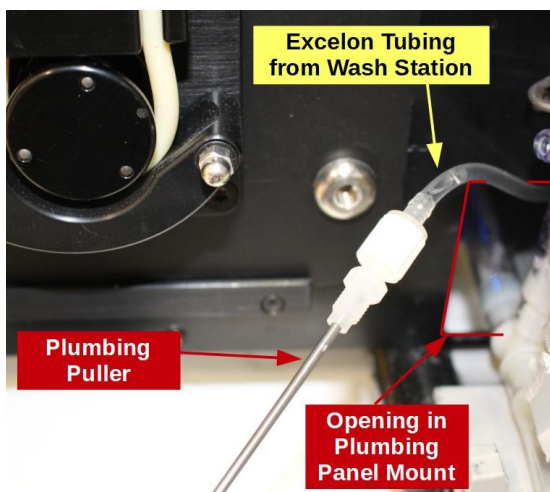

Figure 2. Using the Plumbing Puller to attach the Excelon Tubing.
- Once attached, pull the *Plumbing Puller* through the *Panel* as seen in Figure 2, disconnect the *Excelon Tubing* from the *Puller*, and then finally connect it to the open end of the *Filter*.